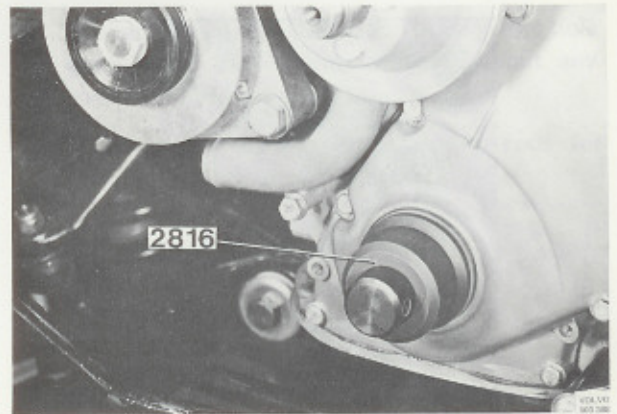

Fig. 21-36. Installing the timing gear casing seal
3. Lever out the sealing ring. Oil the sealing lip on the new sealing ring and fit the ring with drift 2816, Fig. 21-36.